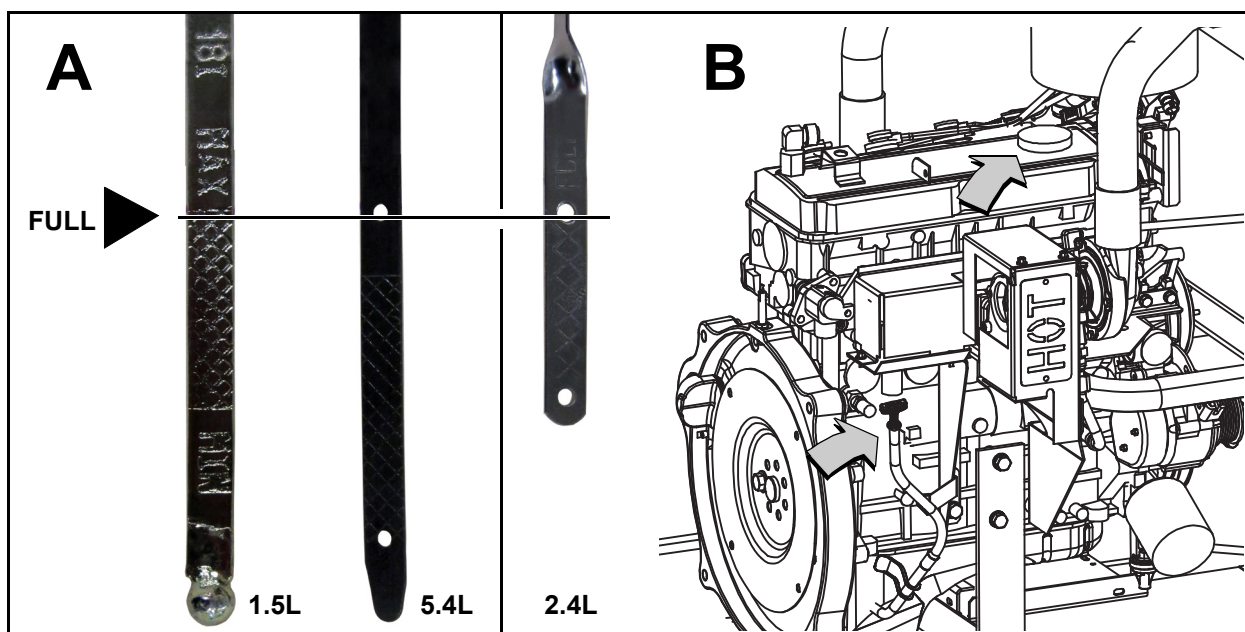

Figure 5-7. Oil Level Dipstick and Oil Fill Cap
2. Remove the dipstick and wipe dry with a clean, lint free cloth. See B of Figure 5-7
7. Verify that the oil level is at or near the FULL mark. Add oil as necessary. See A of Figure 5-7